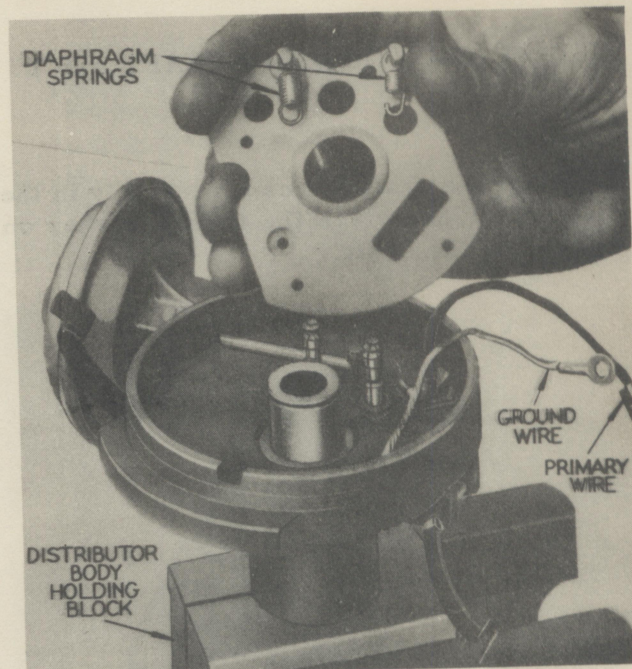

Fig. 12
1. Install ground wire, primary wire and primary terminal housing (Fig. 12).